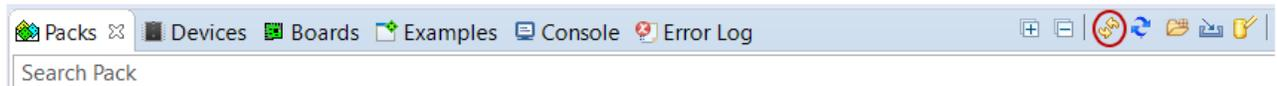

Figure 34. Refresh Pack after Installation
5. After installation, click on the refresh icon with yellow arrows, which shows the text **Reload Packs in the CMSIS Pack root folder** when you hover over it with your cursor, in the Packs tab (as shown in the "Refresh Pack after Installation" figure (Figure 34)), to update your pack properties.